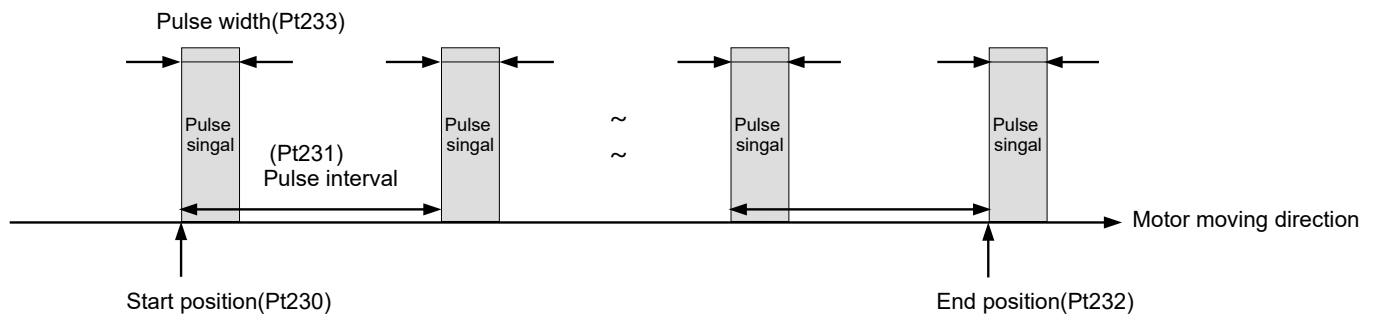

Figure 8.13.1
E2 series servo drive provides position trigger (PT) function. This function supports fixed interval pulse trigger, random interval pulse trigger and random interval trigger status mode. Take pulse trigger output for example, when motor moves to the set position, the servo drive simultaneously outputs a pulse signal. The width and polarity of the pulse signal can be user-defined, as shown in figure 8.13.1. A user can refer to table 8.13.1 for detailed specification and function descriptions. Position trigger function can be set via Thunder software, PDL or MPI. The hardware pins for position trigger digital output (PT) signal are CN6 46 and 47 (3.3 V/20 mA). The signal can be allocated to digital outputs O1~O5 (24 V) if users cannot support such voltage level. Position trigger (PT) function is mainly used in application which requires simultaneous in-position signal for high-speed and high-precision processing, such as laser equipment, line scan camera and lithography equipment.
When the motor moves to the set start position (Pt230), the drive will output the first pulse signal synchronously. When the motor moves to the position of next pulse interval (Pt231), the drive will output next pulse signal. The drive will synchronously output pulse signals in sequence until the motor moves beyond the end position (Pt232), as shown in Figure 8.13.1.